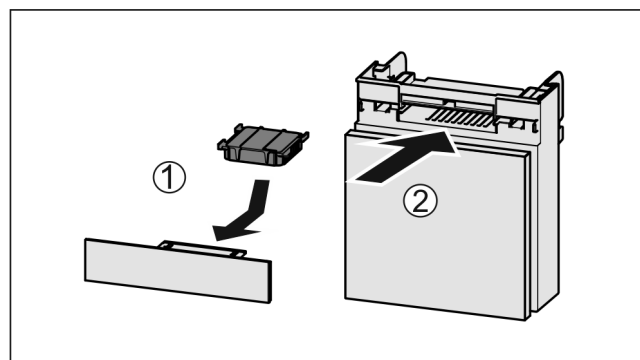

Fig. 112
- Insert the carbon filter as shown in the diagram Fig. 112 (1).
- Push the compartment in Fig. 112 (2).